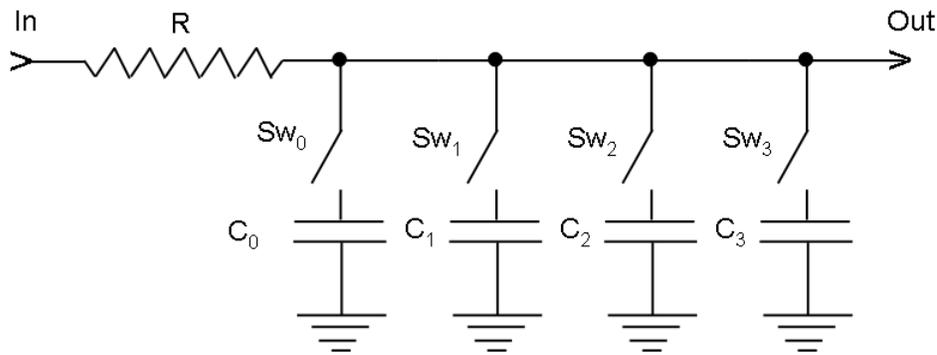

Figure A.3 – EQ Design Above 1 kHz
The EQ for frequencies >1 kHz is accomplished with a series resistor (R) followed by a precision capacitor (C) which shunts the signal to ground such that the value of $R \times C =$ desired time constant, t_3 . With this configuration, only the values of C must change for the different EQ curves, as shown in **Figure A.3**. The RIAA curve (Sw_0 & C_0) is used as "baseline" for the final "trimming" of R to obtain $t_3 = 75 \mu$ sec, after which only the values of capacitance must be selected using relays $Sw_1 - Sw_3$ to obtain the desired EQ curves.¹⁴
The first step was to perform computer simulations on the *Phono III* circuit with the various resistance and capacitance components as shown in the **Figures A.3 and A.4**. These simulations were then compared with the desired design curves to confirm that the proposed designs would perform as desired prior to doing circuit board layouts.